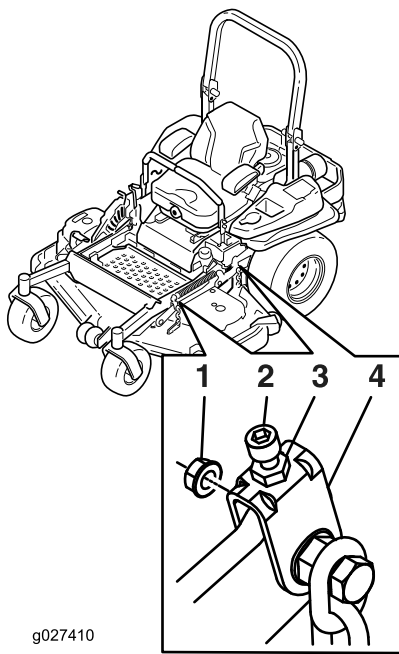

Figure 92
9. If needed, loosen the whizlock nut on the side of the yoke and the jam nut on top. Fine-tune the screw adjuster by turning it to get 7.6 cm (3 inches) height (see Figure 92).
15. Fine-tune the screw adjuster by turning it to get 8.3 mm (3-1/4 inches) height (Figure 92).